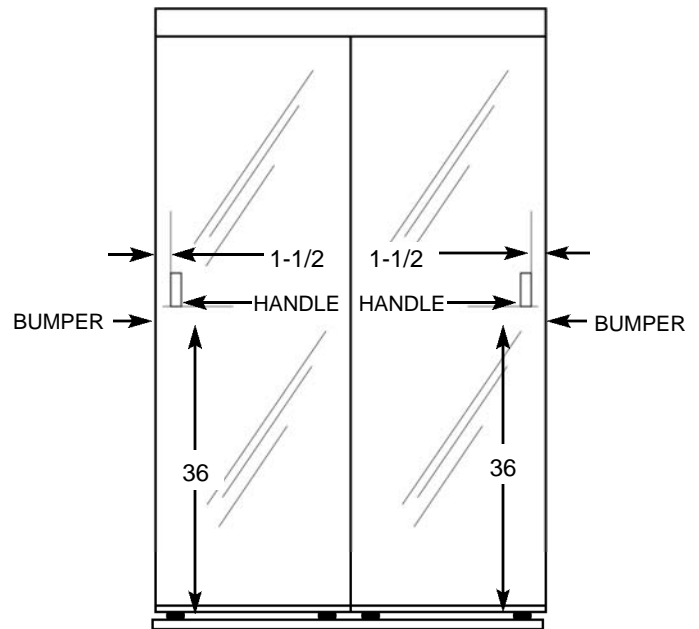

Figure 5
Peel paper off the back of the Clear Plastic Bumpers (#8) and place on the edge of the panel frame 36 up from the bottom. The Bumpers (#8) will cushion and protect the door and wall when you close the wardrobe doors (See Figure 5).
- A. Clean the mirror in the area where the Mirror Handles (#7) will be applied. Peel paper off the back of the Mirror Handles (#7). Position each Handle 36 from the bottom of the Panel (#1) and 1-1/2 from outside edge of the Side Mold (#11) (1/2 in from the Glazing Vinyl (#16) on each Panel (#1) (See Figure 5).